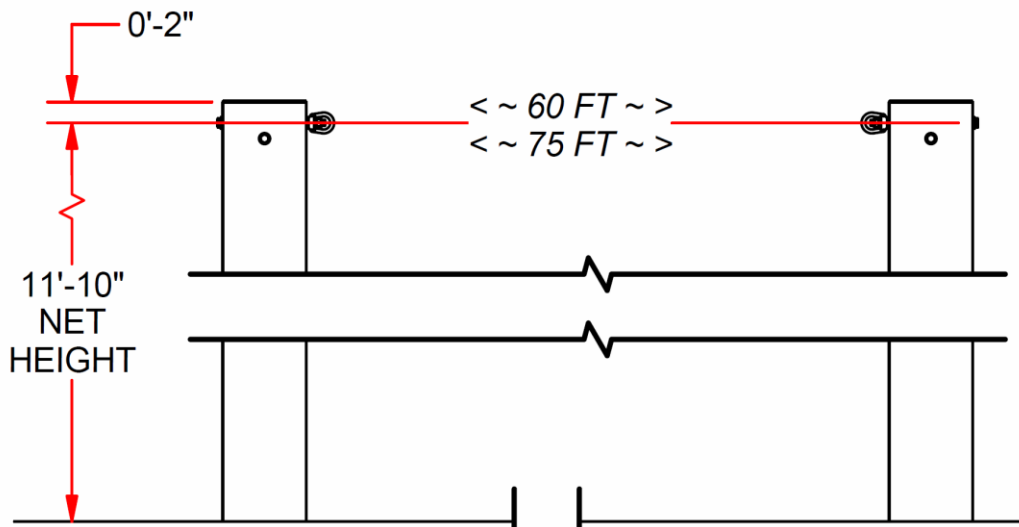

Figure 3
**Important:** Verify the orientation of the holes in the top of the posts before proceeding. The upper holes should be in-line with the length of the net and the lower holes should line up with the ends of the net – see Figure 3.
**IMPORTANT: DO NOT POUR CONCRETE WITHOUT VERIFYING ORIENTATION OF THE POST HOLES. ENSURE THAT YOUR POST AGREES WITH FIGURE 3**